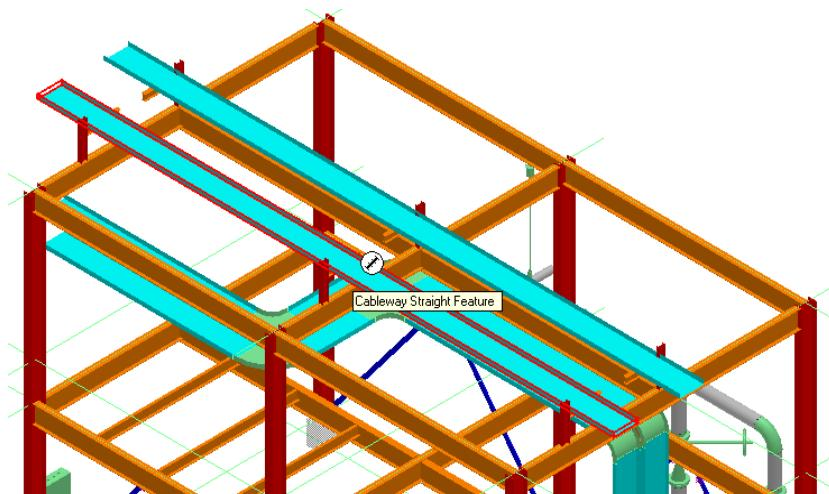

Figure 3: Cableway Straight Feature
5. On the top cableway, select the **Cableway Straight Feature**, where you need to place the split, as shown in the highlighted section of Figure 3.